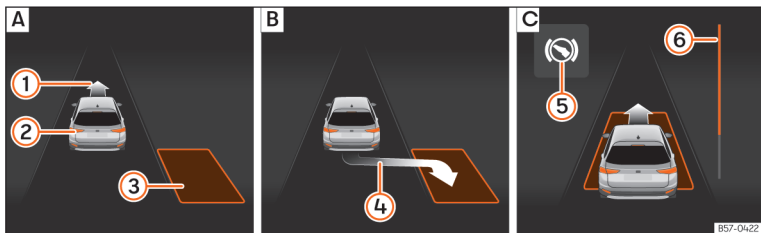
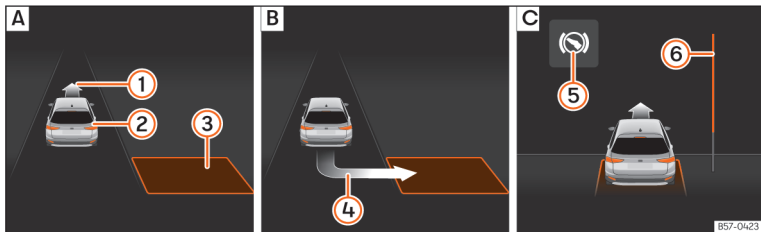

Fig. 140 On the instrument cluster display: parallel parking. **A**: Finding a parking space **B**: Parking position. **C**: Manoeuvring.
Fig. 141 On the instrument cluster display: angle parking. **A**: Finding a parking space **B**: Parking position. **C**: Manoeuvring.
- Look at the instrument cluster screen to see if the space has been detected as “appropriate” and if the correct position for parking has been reached >>> Fig. 140 **B**) or >>> Fig. 141 **B**). The space is considered “appropriate” if the instrument cluster display shows the parking indication **4**.
- Reverse until the continuous ParkPilot signal sounds; **OR**: reverse until the indication to move forward appears on the instrument panel display >>> Fig. 140 [C] or >>> Fig. 141 [C]; **OR**: reverse until the **Park Assist finished** message appears on the instrument cluster display. The progress bar ⑥ indicates the distance to cover.
- Press the brake pedal until the parking assist system completes the steering wheel turns; **OR**: until the symbol (S) goes out on the instrument panel screen.
- Move forward until the continuous ParkPilot signal sounds; **OR**: move forward until the reverse indication appears on the instrument panel display. The Park Assist system steers the vehicle forward and back until it centres it in the space >>> Fig. 140 [C] or >>> Fig. 141 [C].
The progress bar >>> Fig. 140 ⑥ and >>> Fig. 141 ⑥ on the instrument cluster display shows the relative distance to be covered as a symbol. The greater the distance, the fuller the progress